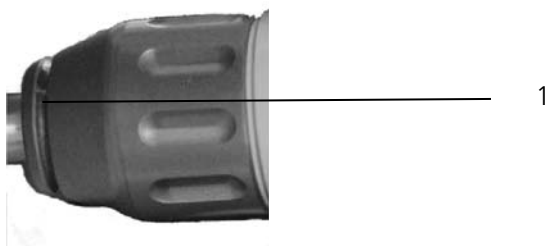

Fig. 3 – 3 Mounting groove for acoustic impedance adapter
- Fit the acoustic impedance adapter into the mounting groove (Fig. 3 – 3/1) provided on the shock transmitter screw cap.